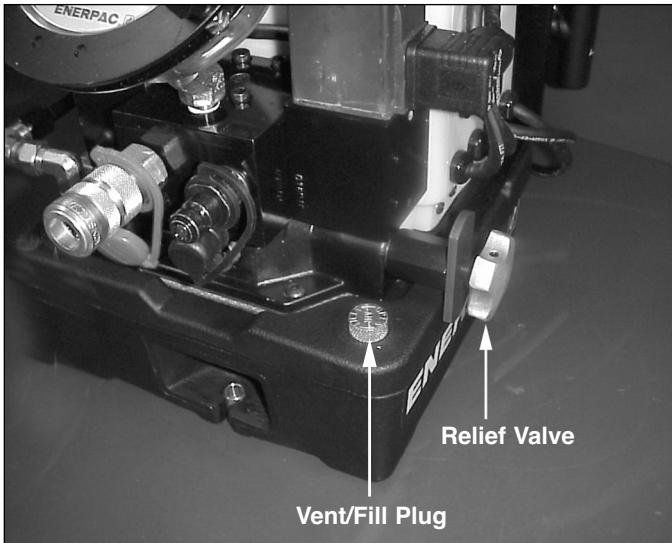

Figure 1 - Relief Valve
- Loosen locknut and back out (turn counter-clockwise) relief valve to prevent unintended pressure build-up. No tools are needed to adjust the relief valve. See Figure 1.